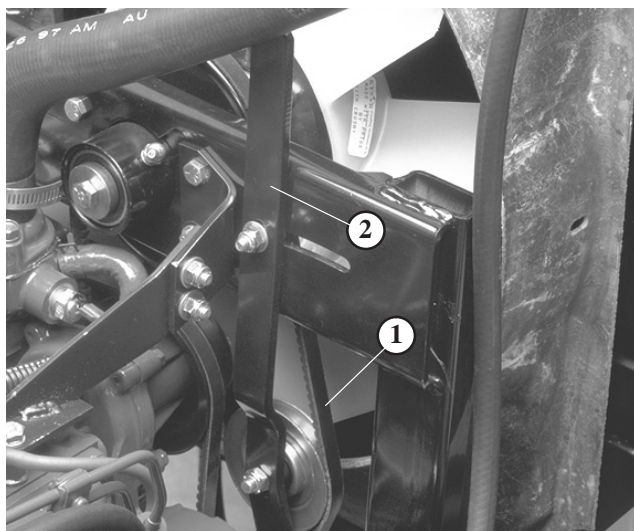

Figure 56
1. Loosen locknut on belt tensioner lever (Fig. 56).